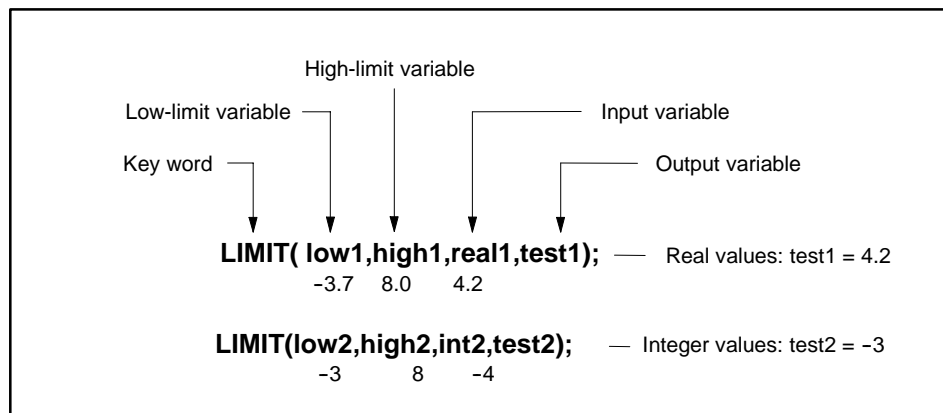

Figure 11-30 LIMIT Procedure
- If the input is greater than or equal to the low limit and less than or equal to the high limit, the output is assigned the input value. For example, in Figure 11-30, if you assume the values under each variable in the first procedure, **test1** is 4.2.
- If the input is less than the low limit, the output is assigned the low-limit value. For example, in Figure 11-30, if you assume the values under each variable in the second procedure, **test2** is -3.